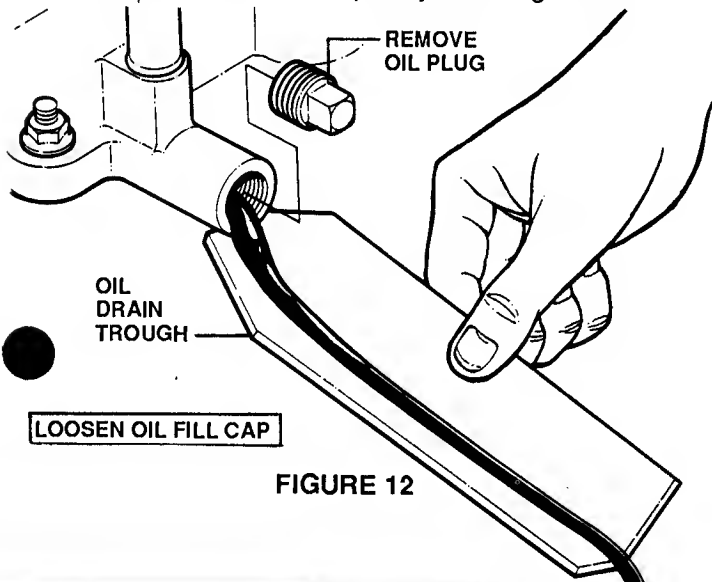

FIGURE 12
4. Loosen oil fill cap and remove oil drain plug. Allow engine oil to drain completely. See Figure 12.